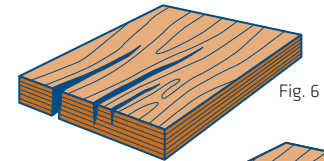

Fig. 6
**End Splits** - A separation that extends through the plank from face to face. End splits are caused by repeated exposure to wet/dry conditions. If an end split exceeds 18", remove the plank from service. (Fig. 6)